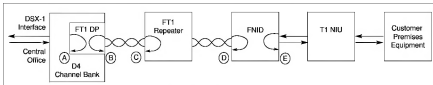

Figure A-1. FT1 Loopbacks
Figure A-1 shows the application from the central office (CO) to customer premises. The FT1 Repeater is shown for convenience and not as a necessary part of the FT1 network. The loopbacks shown are as follows: